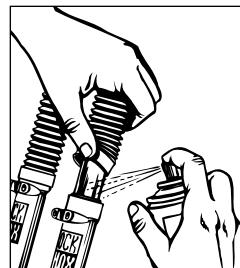

Figure 6
**Performance Tips:** Here are some tips for keeping your Quadra feeling smooth. **Q5:** If the fork becomes very stiff or "sticky" feeling, unscrew the top cap with a 22mm wrench and apply a light-duty grease to all surfaces of the elastomer (do not use a Lithium grease). **All:** To maintain plushness, occasionally pull up the bottom of the accordion style fork boots and apply a few drops of light-duty lube, such as light oil or Teflon chain lube (See Figure 6). Non-lubricating rust preventative sprays, such as WD-40, are not recommended.